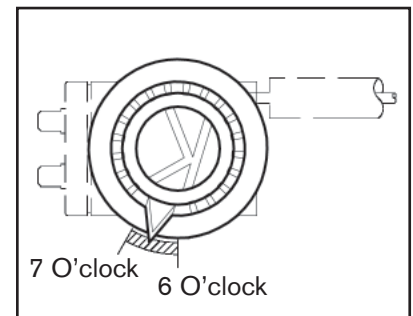

Figure 4
14. For the following Pasta thermostat, use Figure 4: